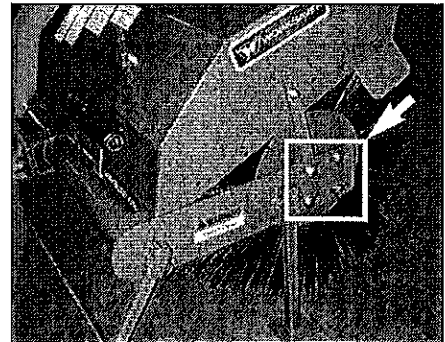

Figure 30
1. Loosen 4 carriage bolts holding each bearing assembly (Figures 30 and 31).